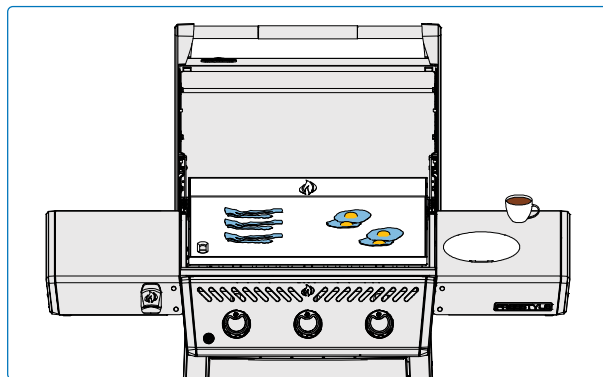

Fig. 8
- Set different burners to different heat levels to create specific temperature zones. Monitor the griddle surface temperature with an infrared thermometer to ensure each zone is at the desired heat level. Use direct heat (placed directly over lit burners) for foods that benefit from quick cooking, while indirect heat (placed off to the side) can be used for slower cooking or to keep food warm. **(Fig. 8)**